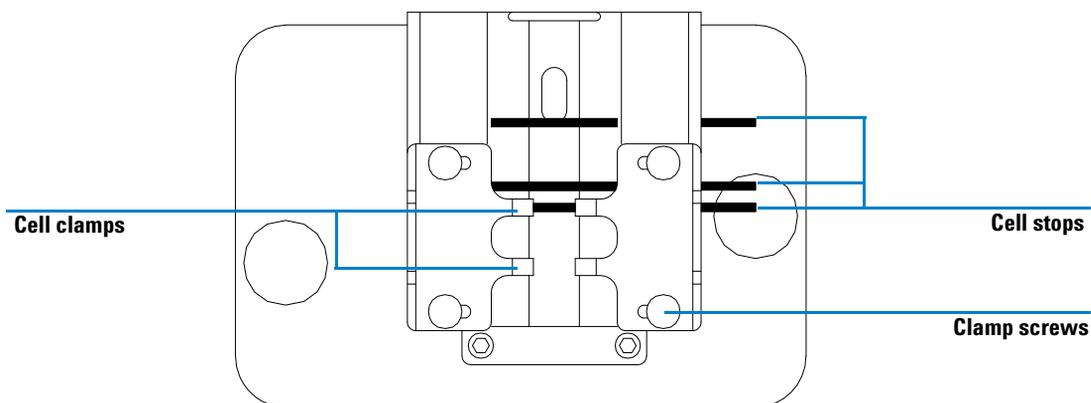

Figure 25 Positioning the Cell Stops for a 1-cm Sample Cell
- 2 If your sample cell is not one of the standard lengths, position the cell stops as for a long path sample cell, i.e. move all cell stops in Figure 25 to the left.